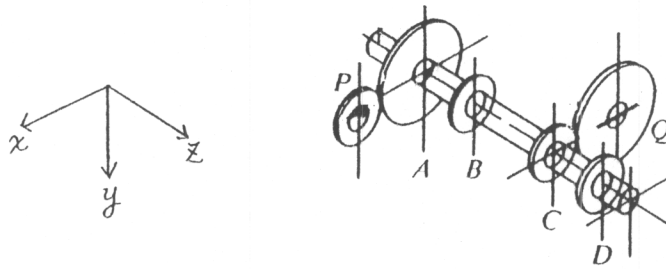

Figure 1
3. (25%) Figure 1 shows a gear train. Gear P transmits 21000 lb-in to gear A, and gear C delivers the torque to gear Q. The distance between gear A and bearing B is 15 in. The distance between bearing B and gear C is 15 in. The distance between gear C and bearing D is 10 in. The gears are 20-degree (pressure angle) spur gears. The pitch diameters of gears A and C are 20 in and 10 in, respectively. Draw the free-body diagram, shear force diagram, and bending moment diagram for the shaft in the x-z plane, and in the y-z plane.